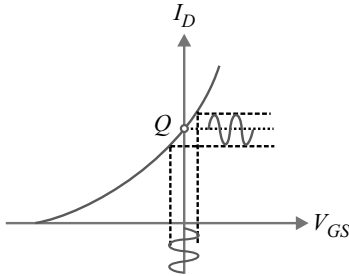

Fig. 17.59
**Zero-bias.** Since a *D-MOSFET* can be operated with either positive or negative values of  $V_{GS}$ , we can set its *Q*-point at  $V_{GS} = 0\text{V}$  as shown in Fig. 17.59. Then an input a.c. signal to the gate can produce variations above and below the *Q*-point.